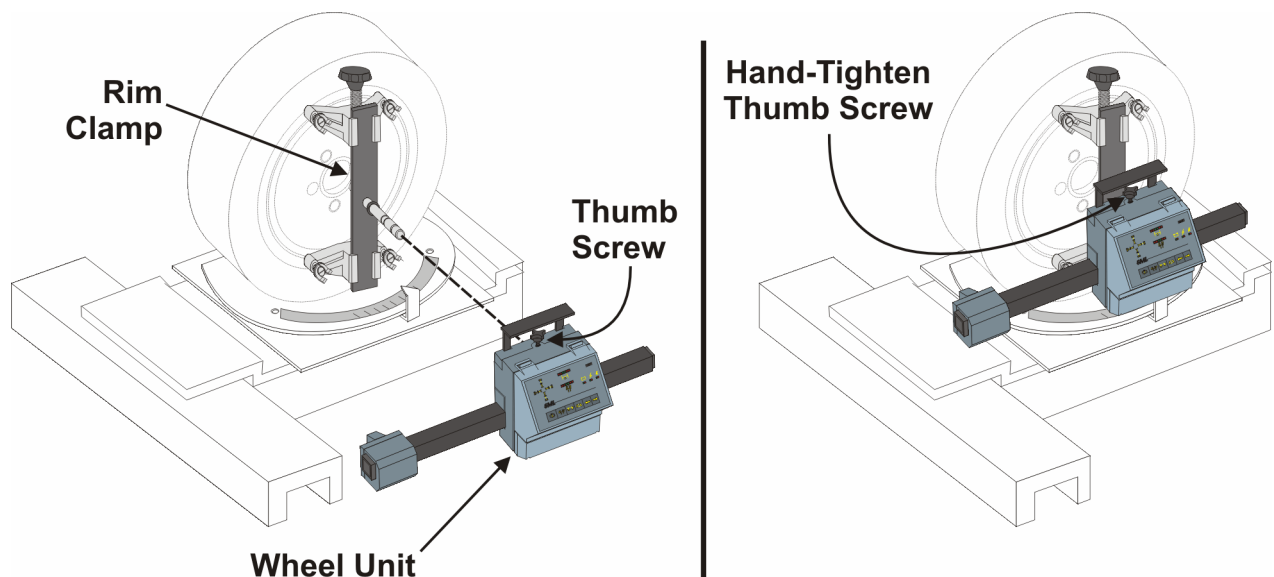

Figure 3-4. Applying Rim Clamps to Vehicle Wheel
- 3.1.7 Using Figure 3-4 as a guide, loosen the thumb screw on the wheel unit, such that the wheel unit can be installed onto the shaft on the rim clamp.
Using Figure 3-4 as a guide, place equipment back onto the Main Unit, as follows: